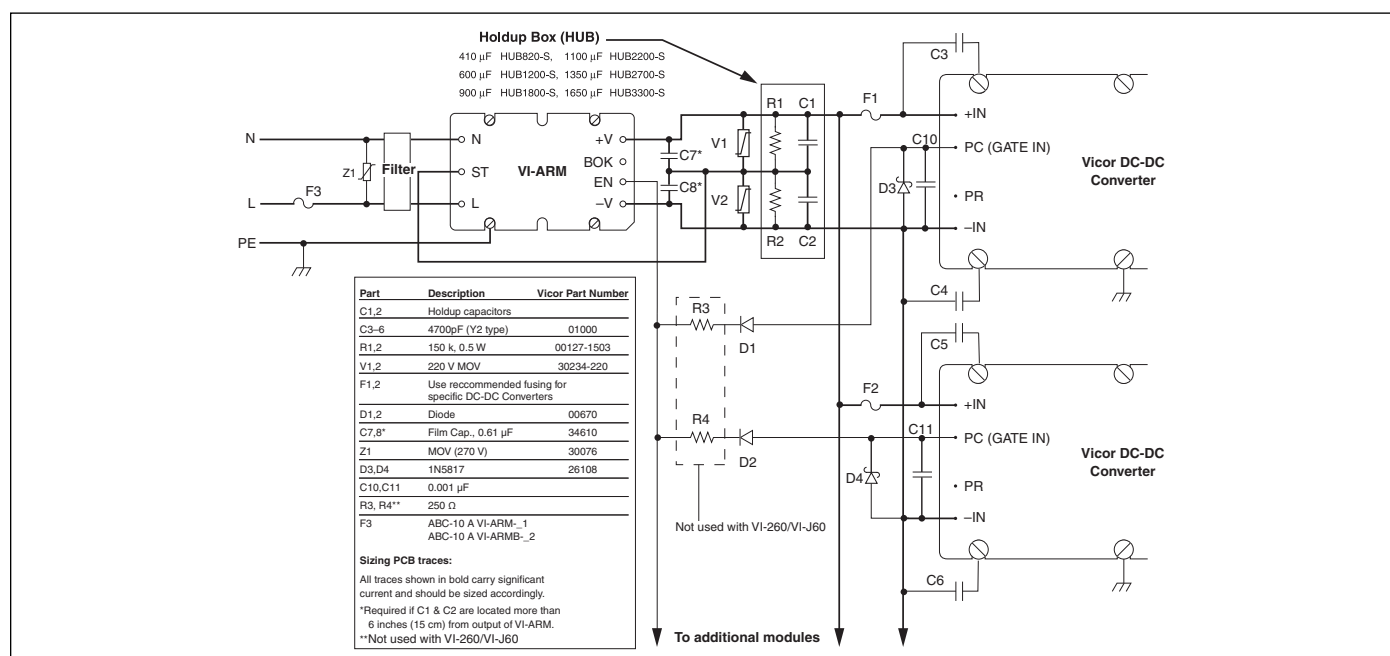

Figure 7–3 — Typical ARM application
**Strap (ST) Pin.** In addition to input and output power pin connections, it is necessary to connect the Strap pin to the junction of the series hold-up capacitors (C1, C2, Figure 7–3) for proper (autoranging) operation. Varistors across the capacitors provide input transient protection. The bleeder resistors (R1, R2, Figure 7–3) discharge the hold-up capacitors when power is switched off.
**Enable (EN) Pin.** (Figure 7–4) The Enable pin must be connected to the PC or GATE IN pin of all converter modules to disable the converters during power up. Otherwise, the converters would attempt to start while the hold-up